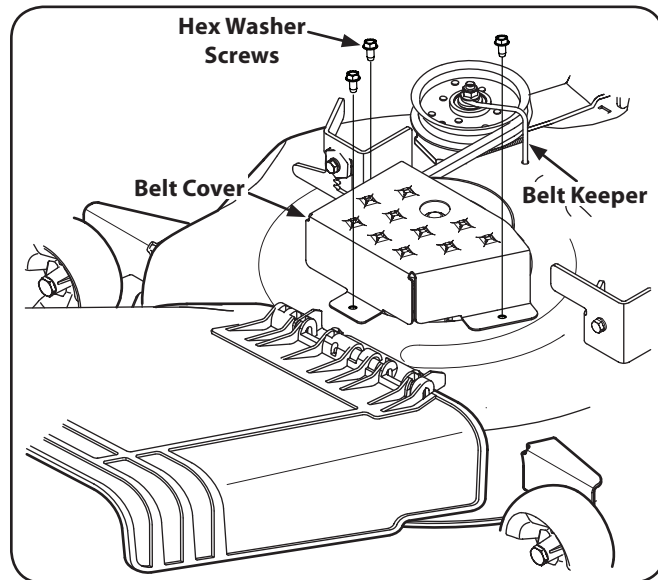

Figure 7-9
- Remove the hex washer screws securing the belt covers to the deck and loosen the belt keepers enough to slide the belt off the pulleys. See Fig. 7-9.
- Remove the belt from the spindle pulleys. Refer to Fig. 7-9.